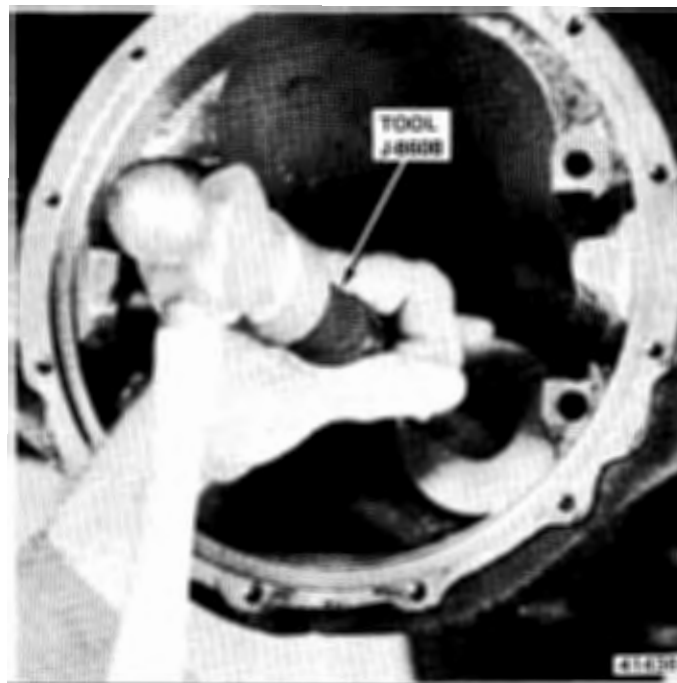

Fig. 10-39 Installing Pinion Rear Bearing Cup
(3) Install shim in rear bearing bore of housing and install rear bearing cup with Driver Handle J-8592 and Bearing Cup Installer J-8608 (fig. 10-39).